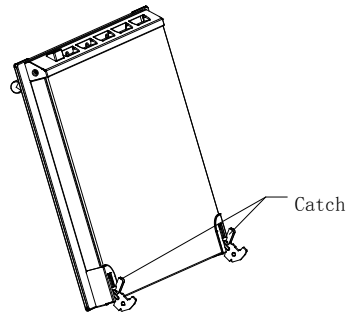

Figure 1
A. Removing the oven door: (see Figure 1)
A. Installation around layer frame (see figure 1):